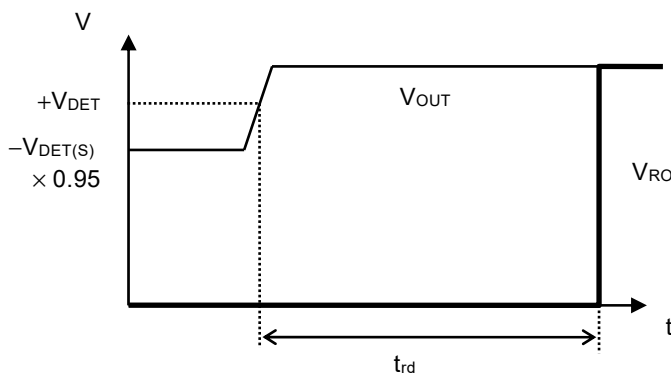

Figure 5 Release Delay Time
*3. The time from when V_{OUT} exceeds +V_{DET} to when the RO pin output inverts (Refer to **Figure 5**). This value changes according to the release delay time and monitoring time adjustment capacitor (C_{DLY}).